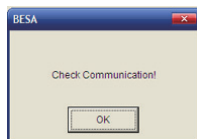

Fig.85
2. If there is no communication, a message text box will appear as per Fig.85